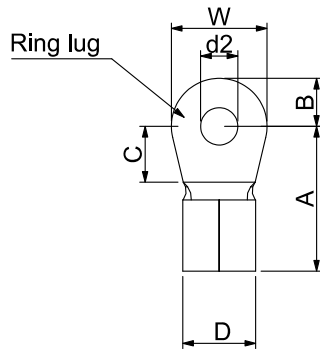

Figure 5-7
- Use the specified ring lug for main circuit terminal wiring. See Figure 5-7 and Figure 5-8 for ring lug specifications. For other types of wiring, use the wires that comply with the local regulations.